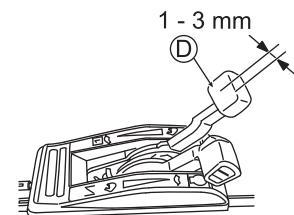

Fig. 27
Adjust the play of the gearshift lever (D) to 1 - 3 mm as shown in Fig. 27.